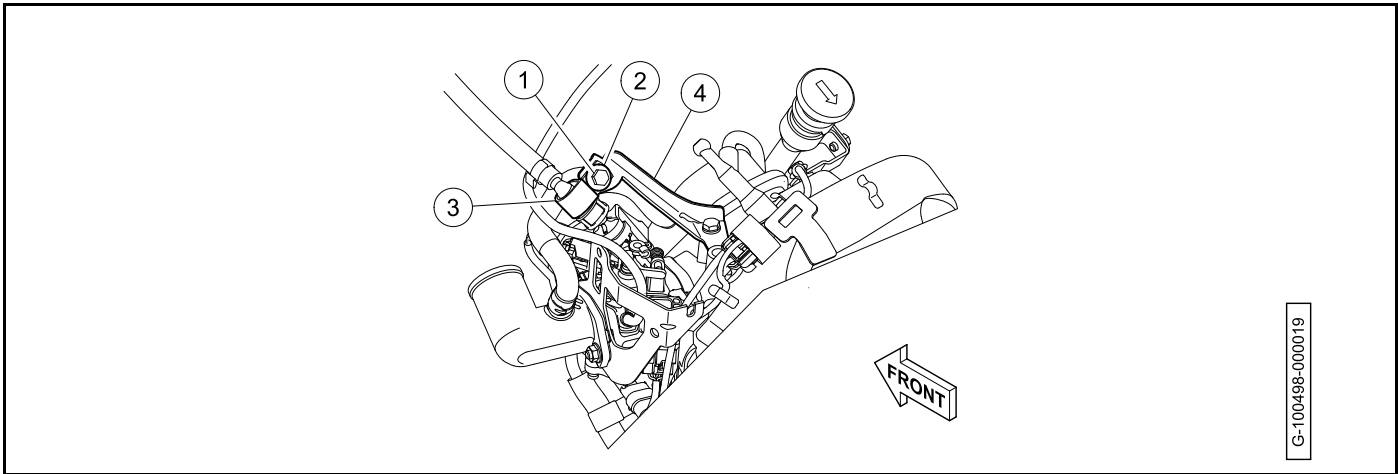

Figure 21-12
- 5.1. Remove the bolt (1), washer (2), and P-clamp (3) from the fuel line support bracket (4) (**Figure 21-12, Page 21-14**).